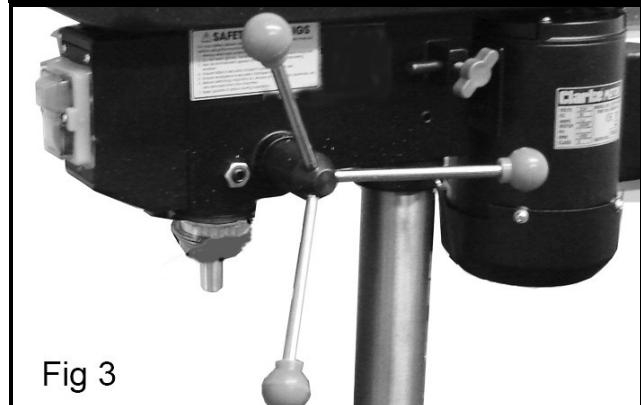

Fig 3
3. Screw the three feed handles firmly into the hub as shown in Fig 3.